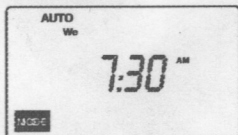

Figure 10
- Push CONFIRM button to begin the auto mode. The timer is now ready to begin watering automatically. (See Figure 10)